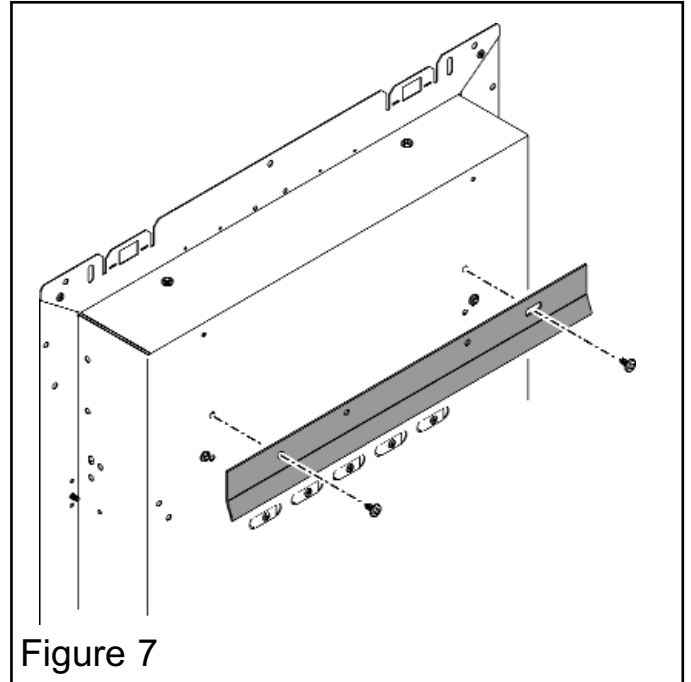

Figure 7
1. Locate the second wall mounting bracket to the rear of the heater using two silver M5 x 8mm screws supplied. Ensure that the bracket is correctly orientated before securing (See figure 7).